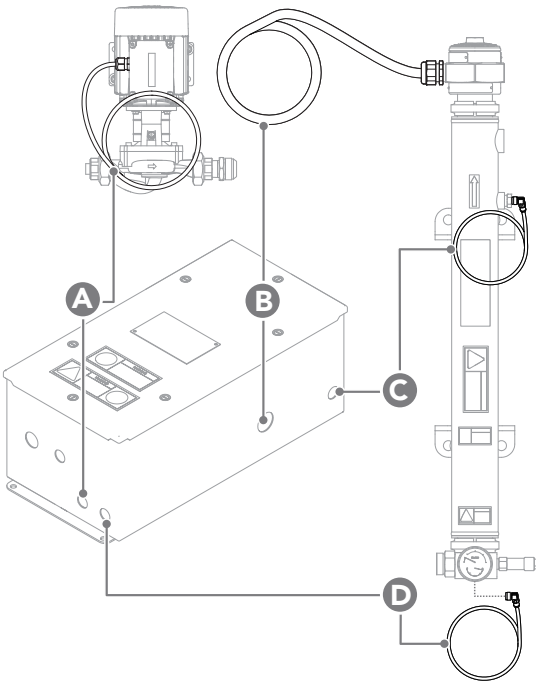

Figure 9. Pump, element and RTD connections as shown connected to the Modular CLV control box. See Table 1.
3. Mark each RTD cable end with the RTD location. See Fig. 9 on following page.
1. Route pump motor cable and heating tank assembly cable to control box. Using supplied strain relief, connect all cables to control box. See Table 1 and Fig. 9.